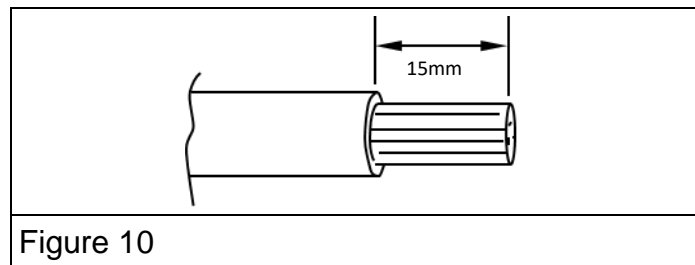

Figure 10
12. Strip 15mm of insulation off of the glow plug wire that remained on the engine harness **and** 15mm of insulation off of the **new** pigtail wire that was cut in Step 11. (See Figure 10.) Slip a piece of shrink wrap at least 40mm long onto the pigtail wire.